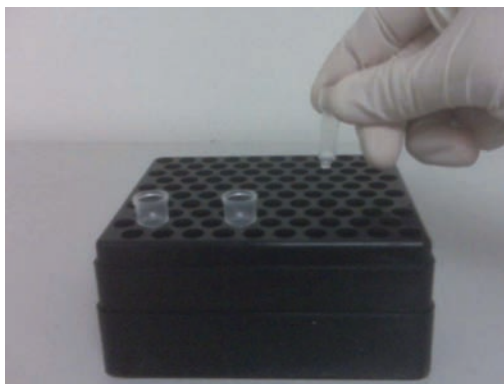

Figure 2: Using the ChIP Filtration Columns.
9. Label a ChIP Filtration Column for each ChIP reaction. Remove the tab from the bottom of the column and place in an empty 1 ml pipet tip box as a holder (see Figure 2 below).